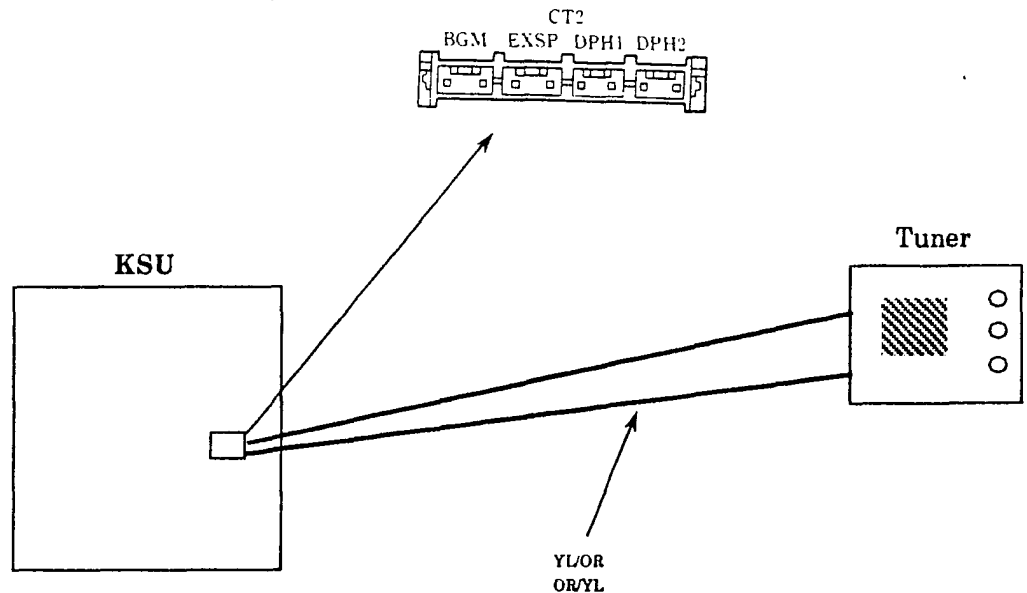

Figure 1-53 MOH/BGM Cable Shield Ground Exposed
2. Shielded cabling should be used from the MOH source to the MDF cable. The shield on the MOH cable should also be grounded. (Refer to Figure 1-53 - MOH/BGM Cable Shield Ground Exposed.)